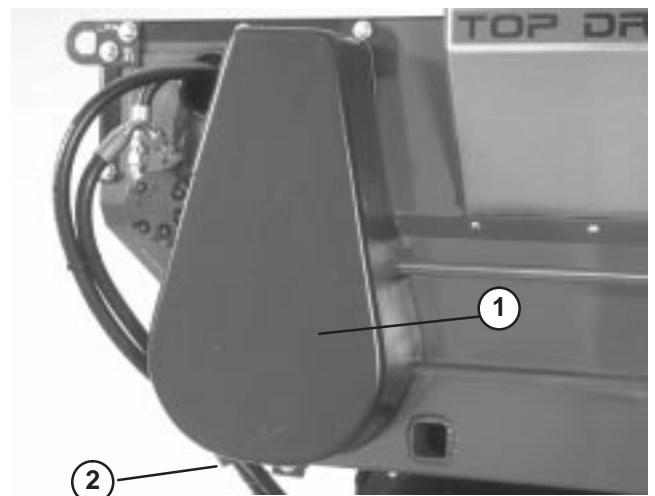

Figure 19
1. Remove chain cover, spacer and finger guard (Fig. 19).